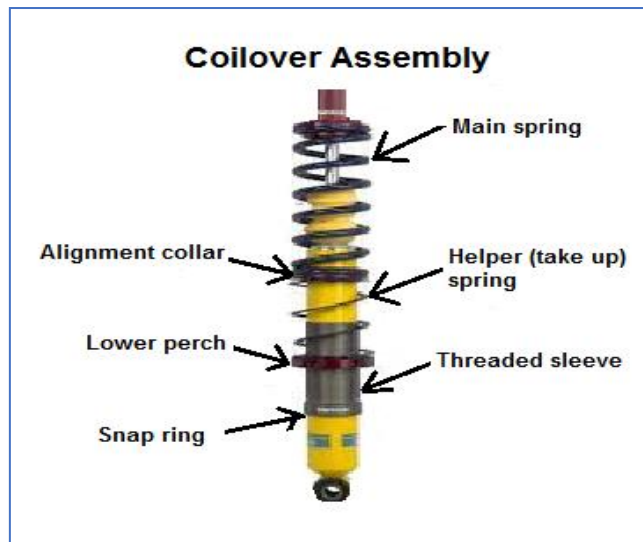

Figure 20
25.19 Helper or take up springs with alignment collar allowed. Only one take up spring and collar allowed per coil over assembly. Maximum take up spring rating must not exceed 5 pounds. The only purpose of the take up spring is to support the main spring if it is released during droop. (*Figure 20*)